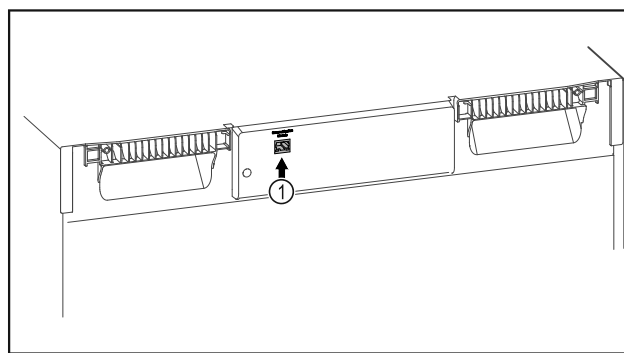

Fig. 130
- ☐ SmartModule Fig. 130 (1) is in use.